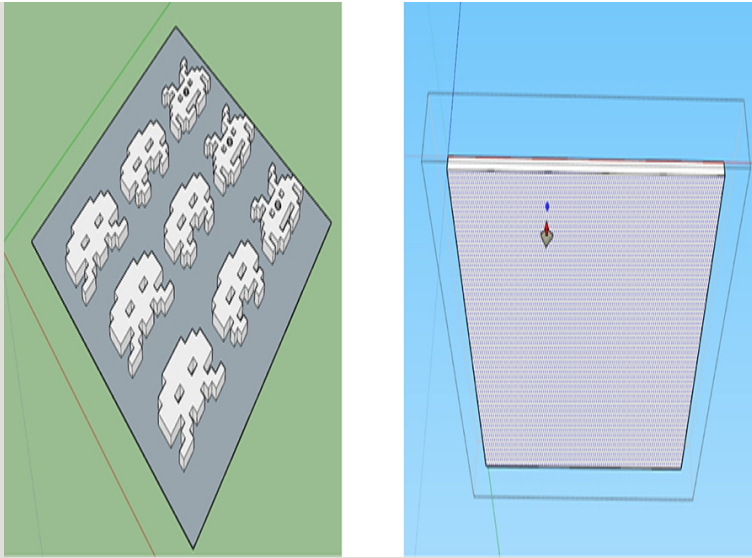

Figure 4-43 Place a grouped rectangle under the models and give it thickness.
2. Draw and group a rectangle, and move it under the models (Figure 4-43). Adjust the rectangle's size as needed by highlighting and stretching its edges with the Move tool. Then give it some thickness with Push/Pull (remember to open the group editing box) to make it a base.